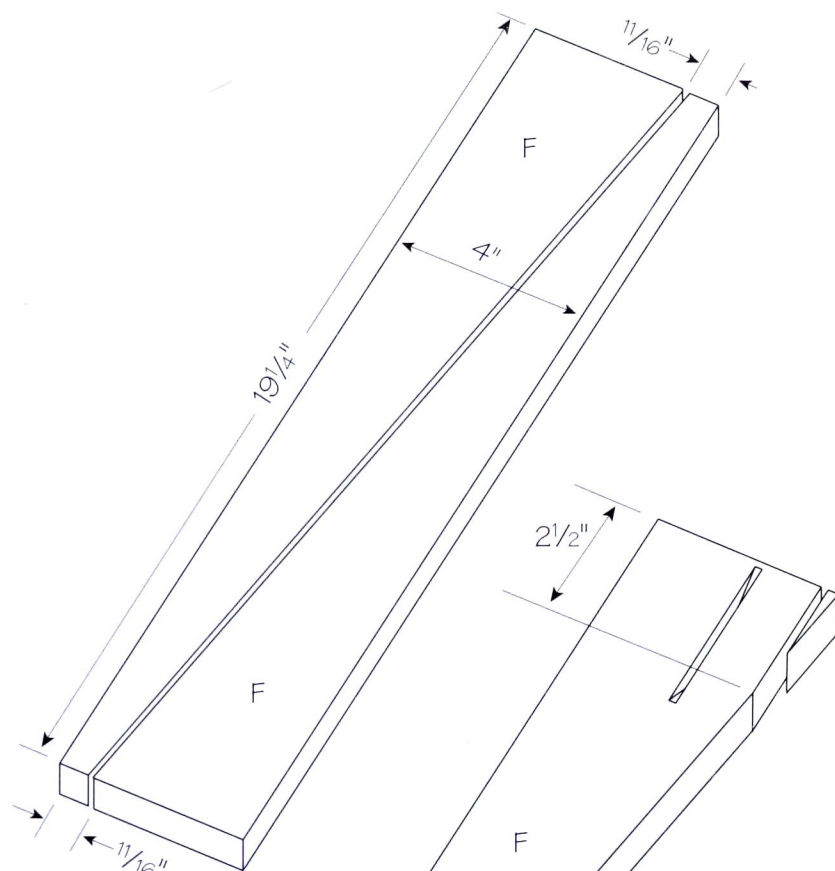

Figure 1
1. Flatten, thickness, and joint one edge of two boards at least 4" wide for the legs (F). Rip them to just over 4", and joint the ripped edge. Cut the boards square to $19\frac{1}{4}$ " long, using a drop stop (see Drop Stops, Jigs, and Fixtures on page 12).
2. On each board, measure and mark along the end a point $\frac{1}{16}$ " from an edge. On the opposite end, mark at $\frac{1}{16}$ " from the other edge, as shown in figure 1. Draw a straight line between the points. Band saw down the center of that line, wavering not a bit. Joint to clean up the saw marks.